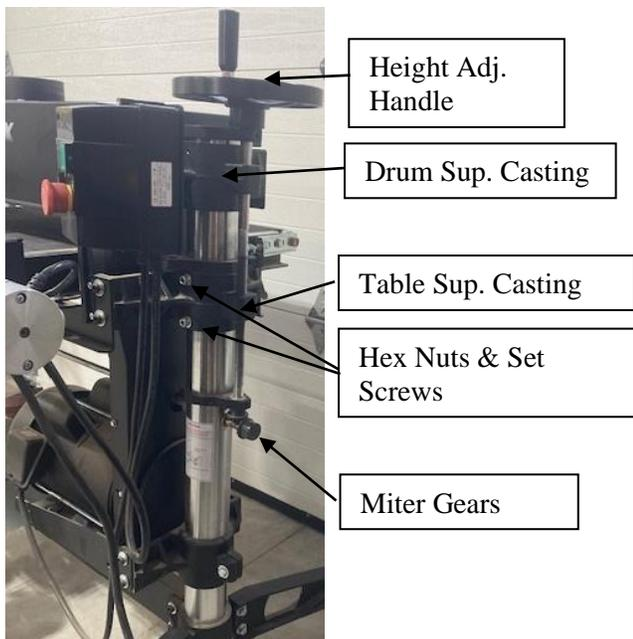

Fig. 17. Table support casting set screws.
When troubleshooting the height adjustment mechanism, first check the conveyor table for level. Then test the height adjustment mechanism (See Fig. 17). If it does not operate
1. Loosen the set screws located at the front of the table support castings (Fig. 17).
3. If the height adjustment feels stiff, check for misalignment of adjusting screw supports and the drum support castings which could cause binding on the adjusting screw rods (Fig. 17). These castings can be adjusted by loosening the set screws which secure them to the column tubes. Realign the adjusting screw supports by loosening the two set screws that hold them to the column tubes and rotate to the proper position.
left (outboard) drum supporting casting (Fig. 17) must both be set at the proper height along the column tubes so the height adjusting screws provide for proper miter gear alignment. Before adjusting these parts, tighten one set screw in the table support castings (Fig. 17) to hold the height adjusting screw in position during adjustment.
Also check to see that the column tubes are centered inside the bore of the table support castings (Fig. 17). If not, loosen the casting bolts and tighten the set screws at the front of table support casting to center the tube. Retighten the bolts and loosen the set screws.
distance should be 1/32" or less. If there is excessive space, move the adjusting screw support to the proper distance above the miter gear and retighten. Loosen the set screws in the table support castings (Fig. 17) and test for smooth operation.